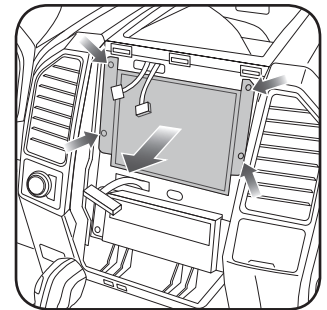

Fig. 3.0
3. Remove the 7mm screws securing the factory screen and disconnect it. (Fig. 3.0)